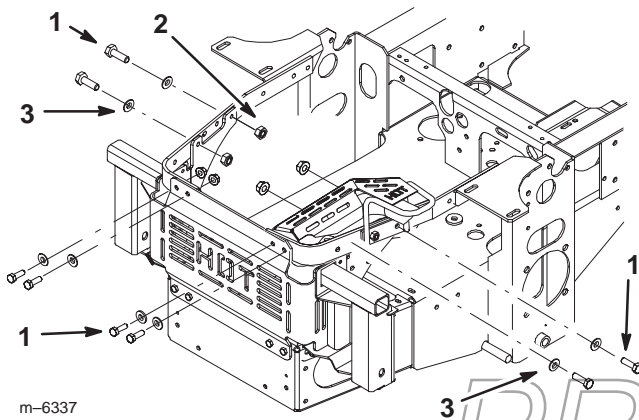

Figure 9
4. Install the top part of the bagger mounting assembly to the engine straps and muffler heat shield with 8 bolts (5/16 x 1 inch), 8 flat washers (5/16 inch) and 8 flange nuts (5/16 inch) (Fig. 9).